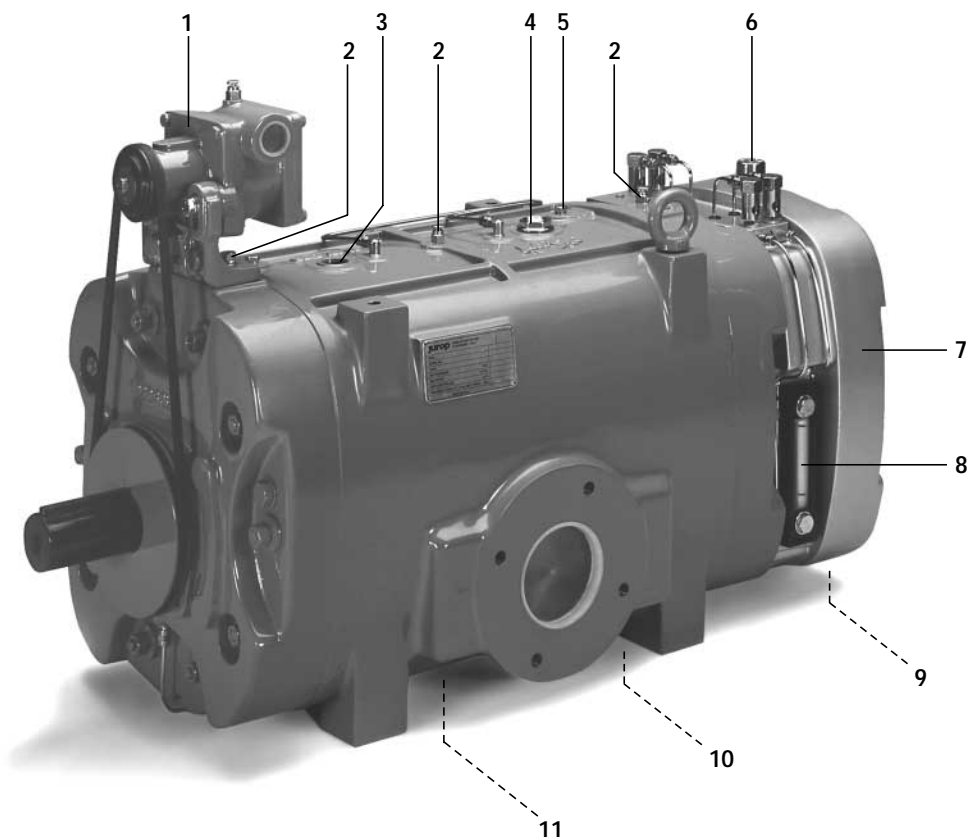

Fig. 4
3.1 Fill the oil tank up to about 3 cm. below the filling tap - Pos. 6 - Fig. 4.
3.2 After releasing the vent taps Pos. 2 - Fig. 4 overfill the pump housing with the cooling media through the tap of Pos. 4 - Fig. 4.
- Screw of the filling and draining taps of Pos. 1-3 - Fig. 4.
Unscrew the plug Pos. 5 -Fig. 4 and insert a rod of dia. 6 mm. and turn the shaft by hand. With the checking rod touching the outside diameter of the rotor, mark it a first time with a scribe (The rod is supplied with the pump).
- Drain the cooling liquid from the pump housing (Pos. 11 - Fig. 4).
- Assemble all the parts taking care to lubricate all the gaskets (pos. 47-48) and the bearing. Align the flange by the steady pins (pos. 92) supplied with the pump.
- Tighten the nuts pos. 78 by means of a dynamometric wrench adjusted at 62 Nm (PR150) and 88 Nm (PR200-250) and pull out the nr 2 steady pins.**
- Refill the cooling system as shown at Pag. 10 - Paragraph 3.2 and re-install the pipeline pos. 27.